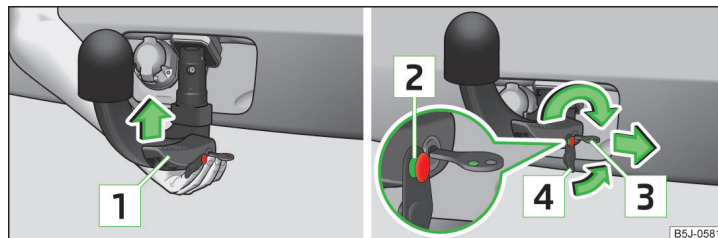

Fig. 126 Insert the ball head/lock the lock, and put the lock cover on
- Grip the tow bar **from underneath** » Fig. 126 and insert into the mounting recess until you hear it click into place » **!**.
Lever **1** » Fig. 126 **automatically** turns upwards and the release pin **2** pops out (its red and green parts are both visible) » **!**.
- Push cap **4** » Fig. 126 onto the lock in the direction of the arrow » **!**.